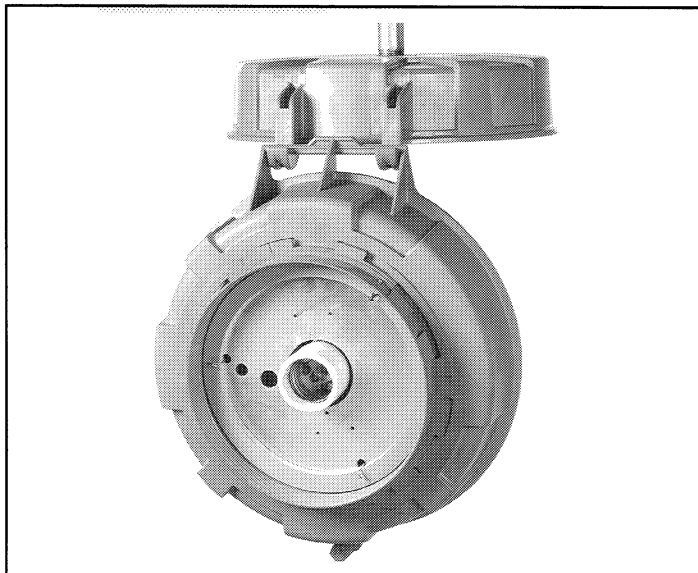

Figure 3 (Pendant Mount Shown)
4. Hang ballast housing on cover module hinge hook by nesting hinge pin fully into hinge hooks. Squeeze pin and hooks with thumb and fingers rather than merely pulling down on housing. See Figure 3.